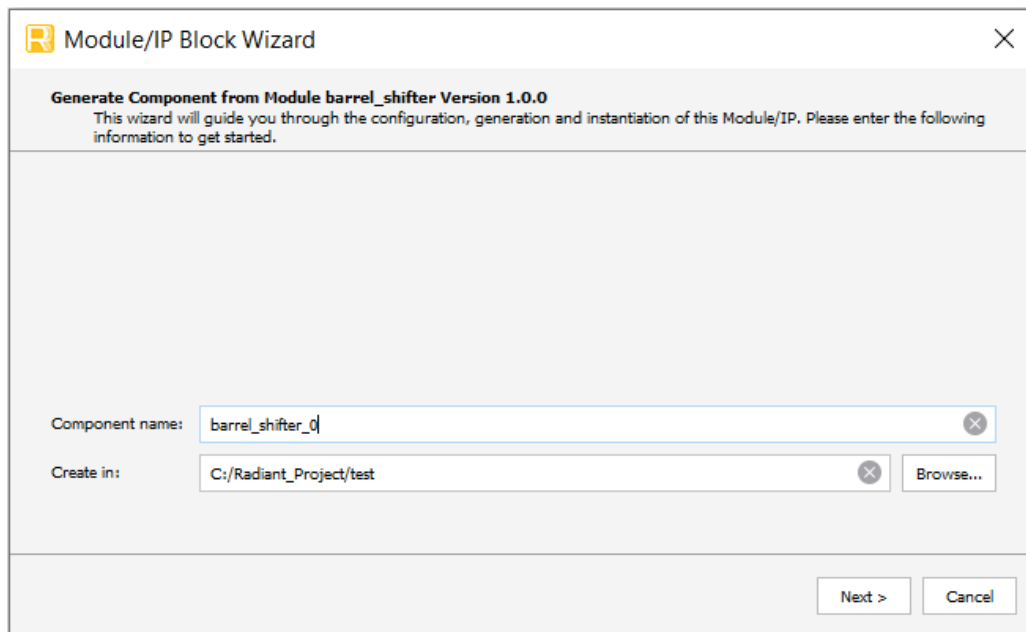

Figure 3.1. Module/IP Block Wizard
3. The **Module/IP Block Wizard** opens, as shown in Figure 3.1. Enter values in the **Component name** and the **Create in** fields and click **Next**.
- Click the **Finish** button. All the generated files are placed under the directory paths in the **Create in** and the **Component name** fields, as shown in Figure 3.1.